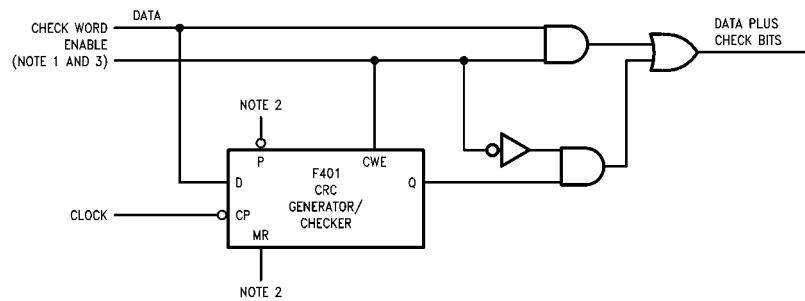

FIGURE 2. Check Word Generation
transition of the Clock input (\overline{CP}). This data is gated with the most significant output (Q) of the register, and controls the Exclusive OR gates Figure 1. The Check Word Enable (CWE) must be held HIGH while the data is being entered. After the last data bit is entered, the CWE is brought LOW and the check bits are shifted out of the register and appended to the data bits using external gating Figure 2.